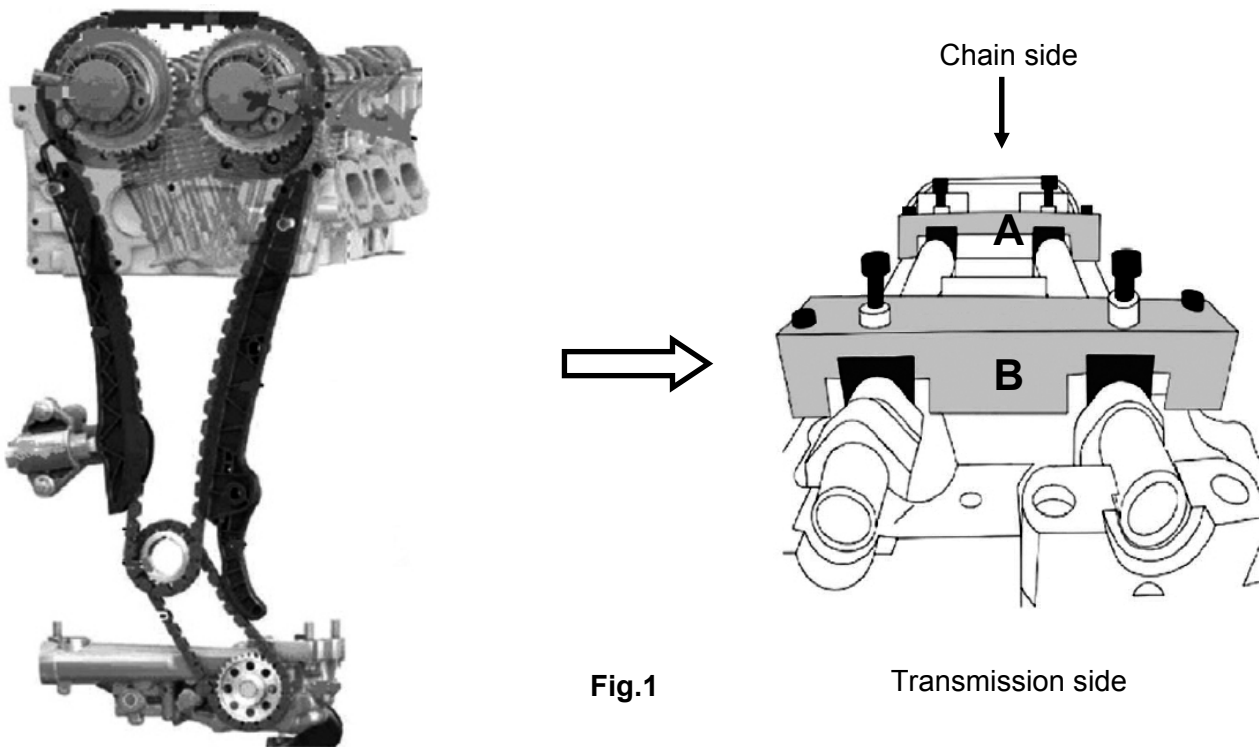

Fig.1
4. Install the camshaft clamping tool as shown in Figure 1